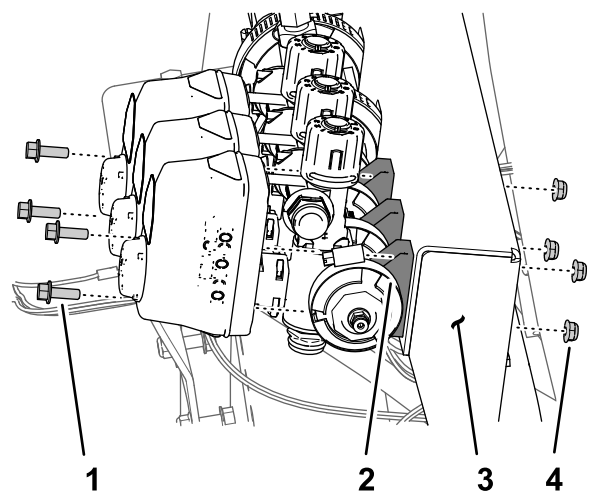

Figure 69
1. Remove the 2 flange-head bolts (1/4 x 3/4 inch) and 2 locknuts (1/4 inch) that secure the left boom-section valve to the manifold mount (Figure 69).
2. Remove the 2 flange-head bolts (1/4 x 3/4 inch) and 2 locknuts (1/4 inch) that secure the right boom-section valve to the manifold mount (Figure 69).